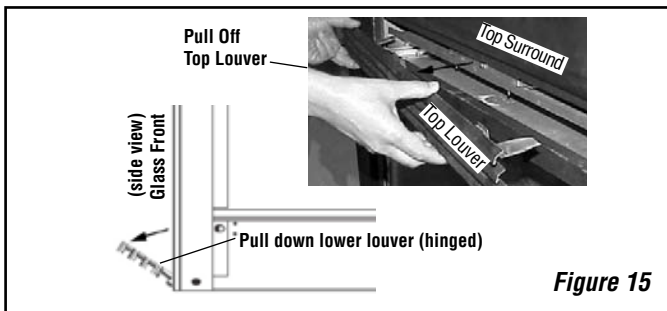

Figure 15
1) Pull off top louver and hinge down lower louver (see **Figure 15**).